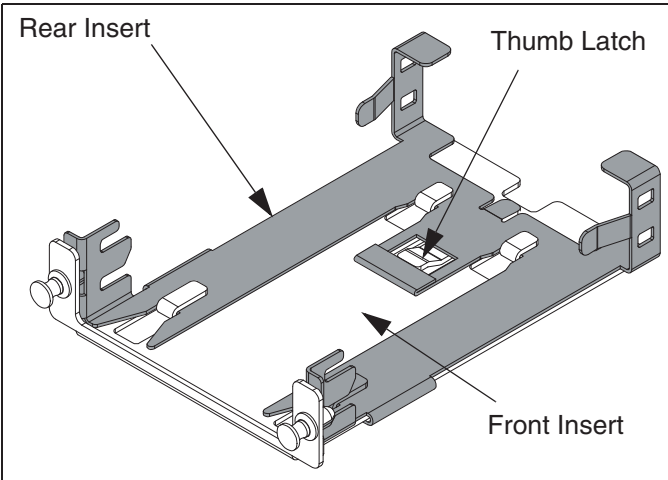

Figure 1:
1.1 Remove FLEX-OPTI-1RU from individual carton and bag. Figure 1 displays how FLEX-OPTI-1RU will be assembled after being removed from packaging.